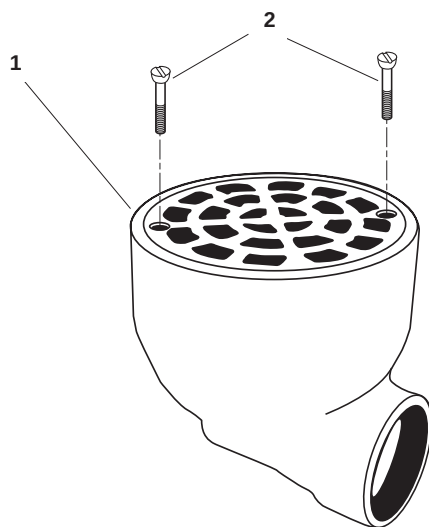

Figure 1. Deck Drain
1. Use a stiff brush and fresh water to clean any debris from the deck drain (figure 1, item 1).
2. If debris still clogs the deck drain grate (figure 1, item 1), remove the two screws (figure 1, item 2) and remove the deck drain grate. The deck drain grate may now be cleaned with a wire brush and fresh water.
3. Install the deck drain grate (figure 1, item 1) and secure it with two screws (figure 1, item 2).